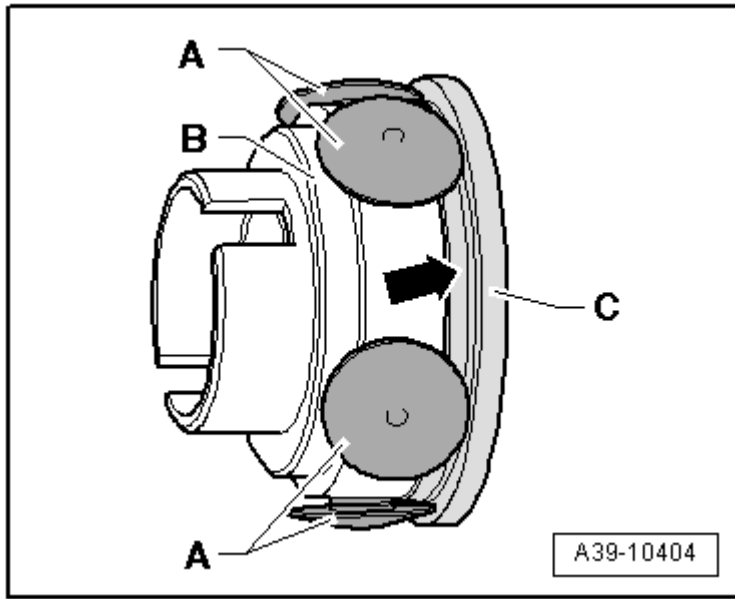

Fig. 168: Assembling Hydraulic Pump
- Assembling, refer to **Fig. 168**